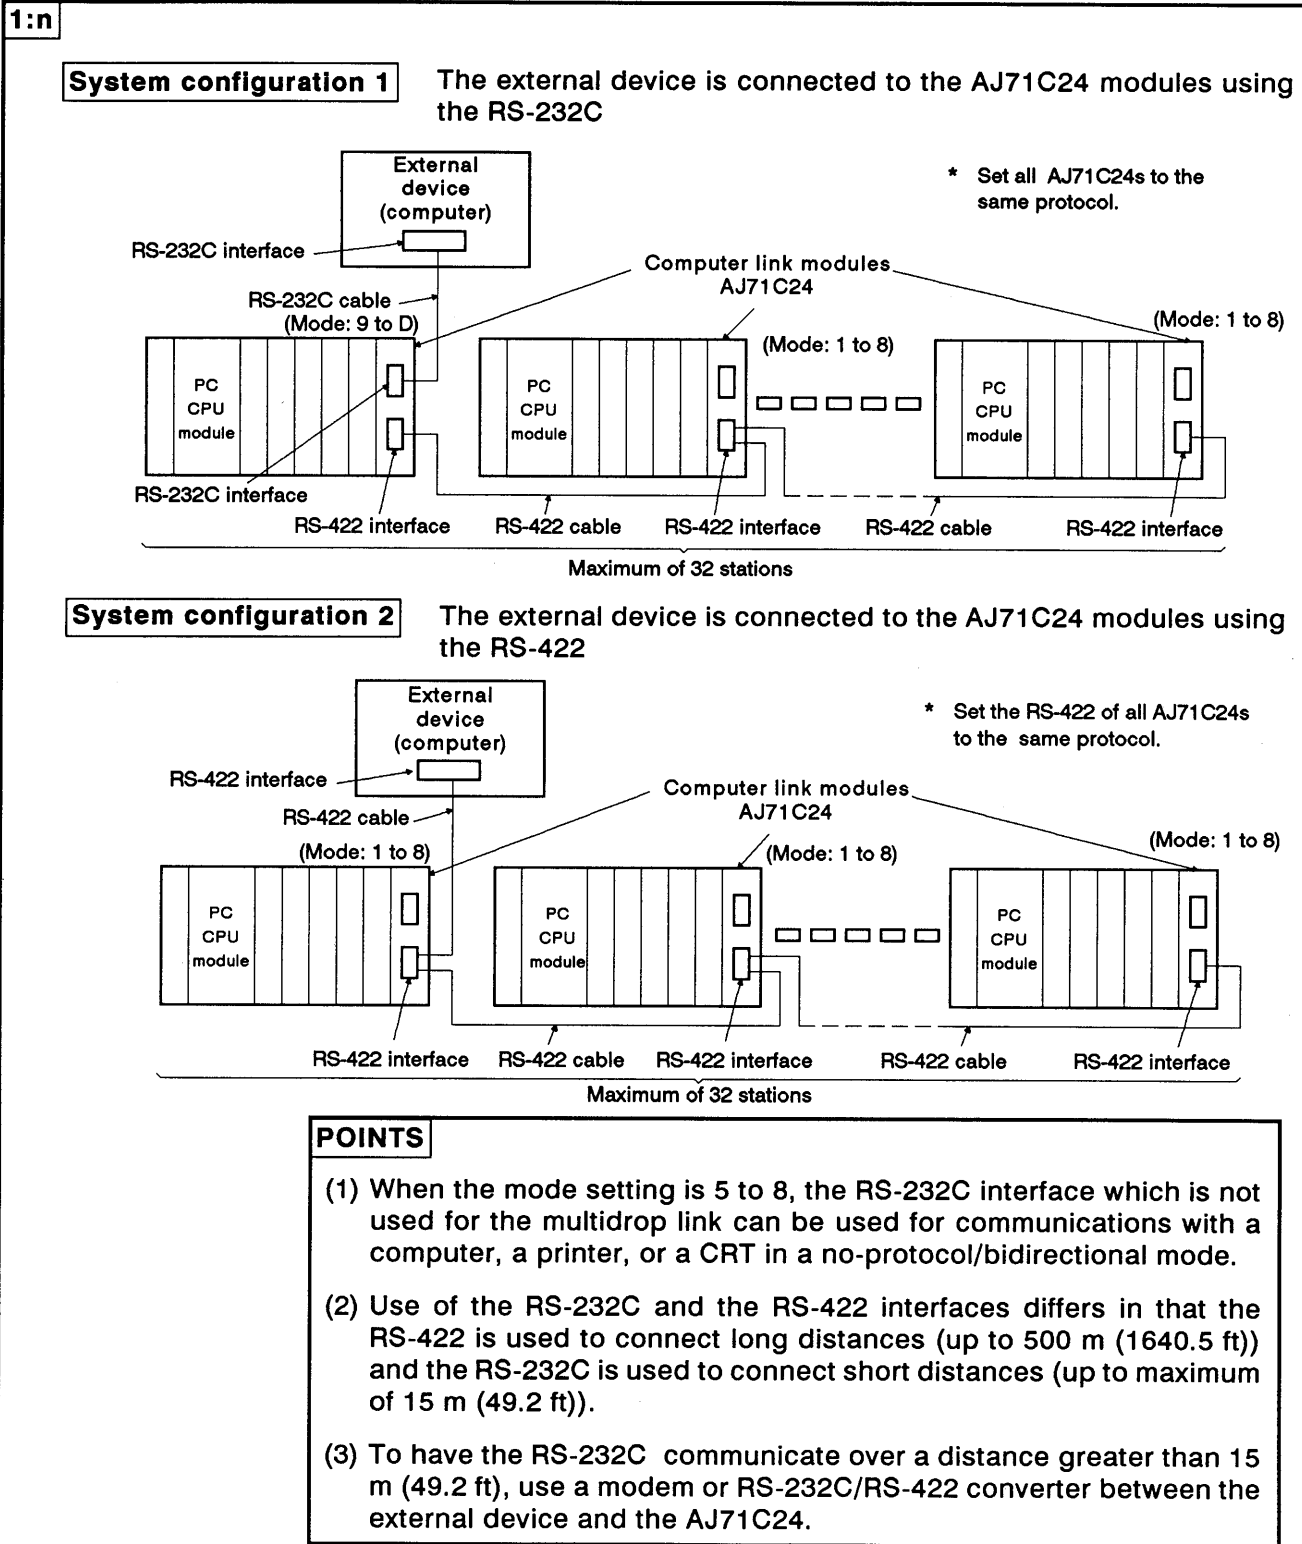

Fig. 2.3 System Configurations (II)
- (1) The system configurations for a 1 : n (up to 32 stations) ratio of an external device (such as a computer) to PC CPUs are shown in Fig. 2.3 below.